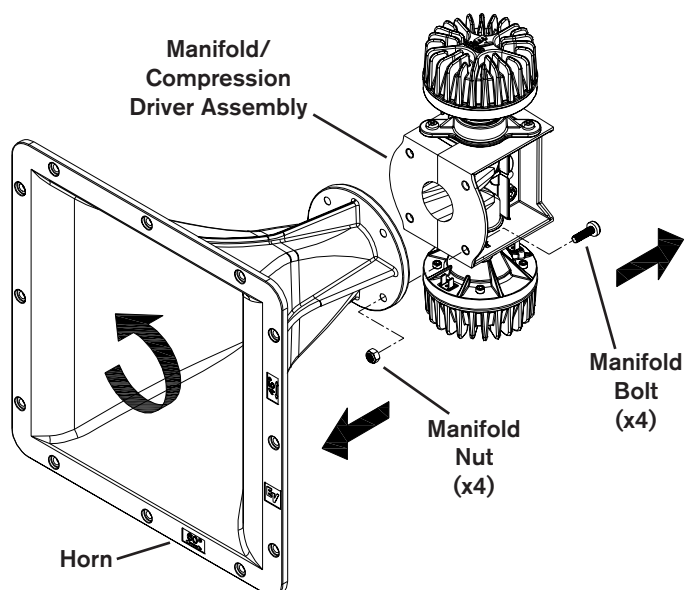

Figure 4: Detaching the Manifold Assembly from the Horn
3. Remove the (4) nuts and bolts that connect the manifold to the horn. Rotate the horn 90° so the desired vertical coverage pattern is parallel to the ND2's and manifold, then reattach the manifold using the (4) nuts and bolts (Figure 4).